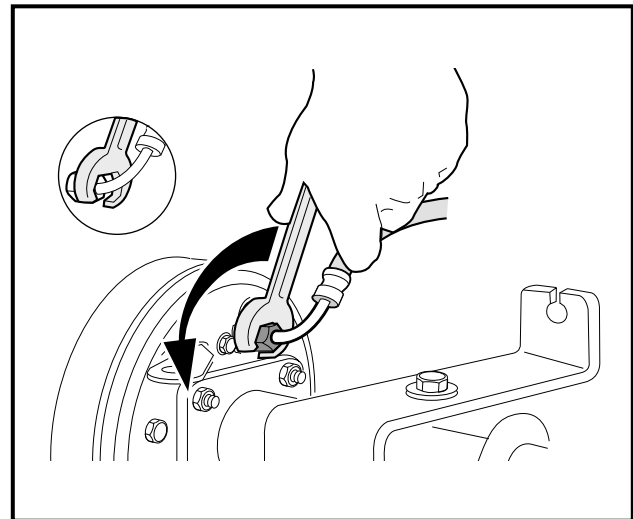

Figure 16b-26 Brake Hose
- 8.1. Remove the cable from the cable support bracket (**Figure 16b-25, Page 16b-14**).